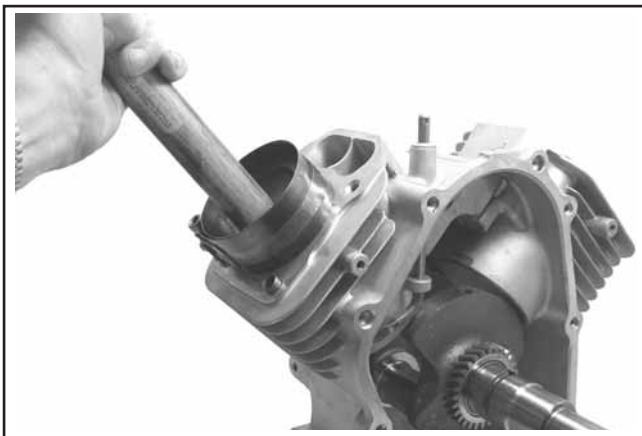

Figure 10-9. Installing Piston Assembly Using Ring Compressor Tool.
4. Make sure the **Fly** stamping on the piston is facing toward the flywheel side of the engine. Use a hammer with a rubber or wood grip and gently tap the piston into the cylinder as shown in Figure 10-9. Be careful that the oil ring rails do not spring free between the bottom of the ring compressor and the top of the cylinder.